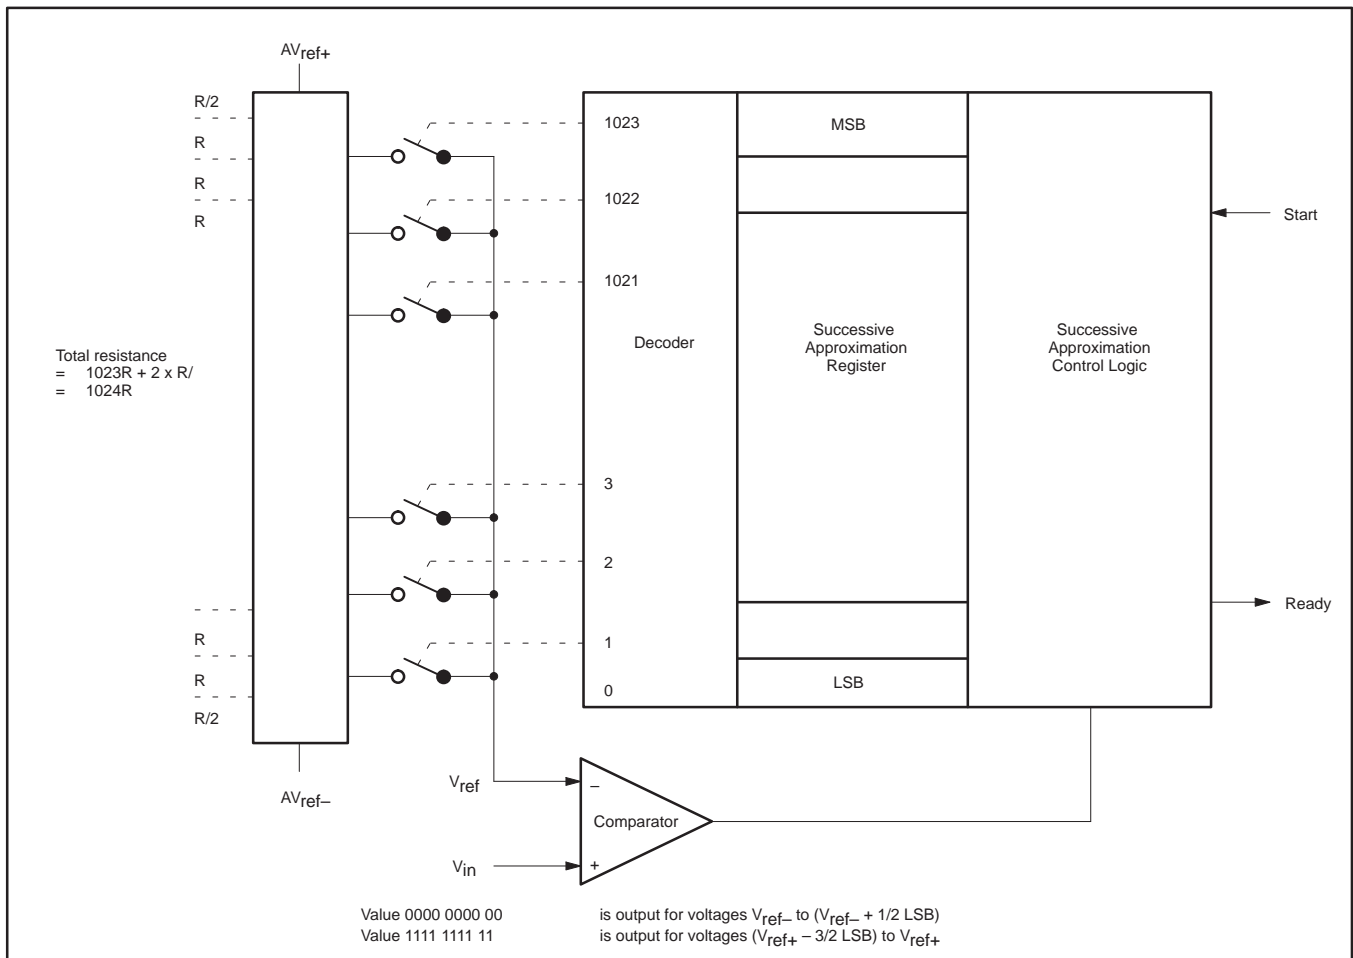
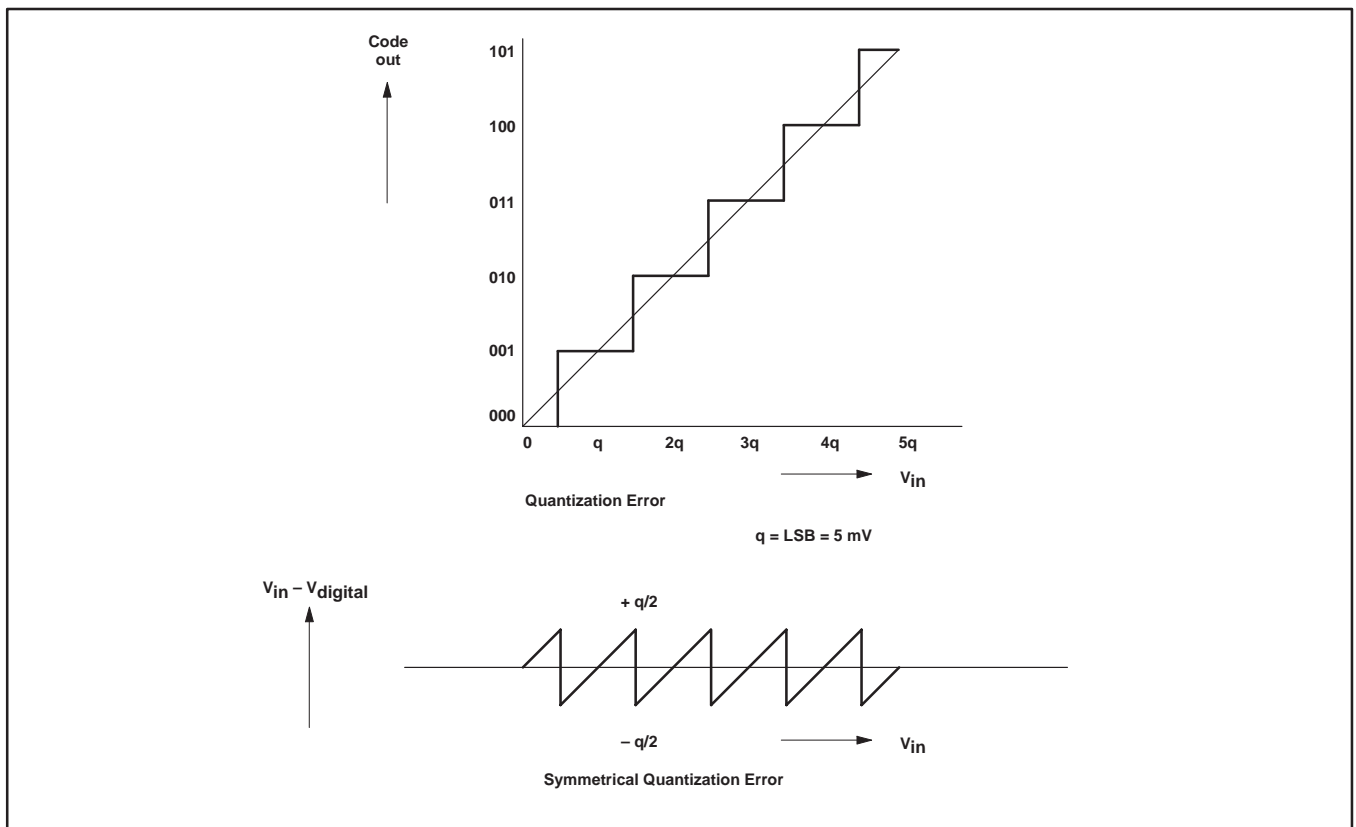

Figure 38. ADC Realization
Figure 40. Effective Conversion Characteristic
**ADC Resolution and Analog Supply:** Figure 38 shows how the ADC is realized. The ADC has its own supply pins (AVDD and AVSS) and two pins (Vref+ and Vref-) connected to each end of the DAC's resistance-ladder. The ladder has 1023 equally spaced taps, separated by a resistance of "R". The first tap is located 0.5 x R above Vref-, and the last tap is located 1.5 x R below Vref+. This gives a total ladder resistance of 1024 x R. This structure ensures that the DAC is monotonic and results in a symmetrical quantization error as shown in Figure 40.